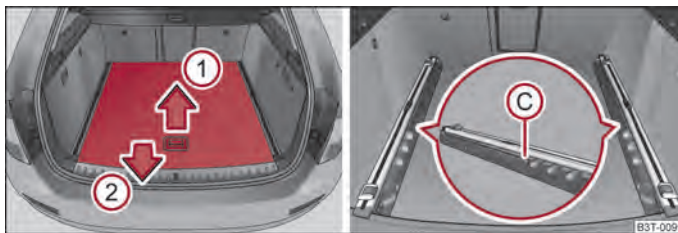
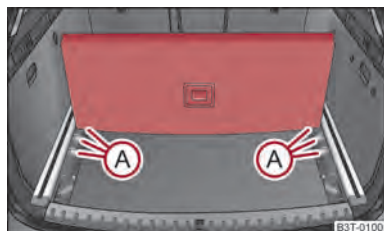

Fig. 76 Luggage compartment: partially pulling out the variable loading floor
Fig. 77 Divide the luggage compartment
- Grasp the rear part of the variable floor at the handle, raise it slightly in direction of arrow ① → fig. 76 and pull it over the bumper in direction of arrow ② until it engages in the opening ③ → fig. 76.
- Grasp the part of the floor at the handle, raise it slightly in direction of arrow ① and push it forwards up to the stop in order to push in the variable loading floor.
- Grasp the rear part of the floor at the handle, raise it in direction of arrow ① ⇒ fig. 76 and insert the rear edge in one of the openings A ⇒ fig. 77.